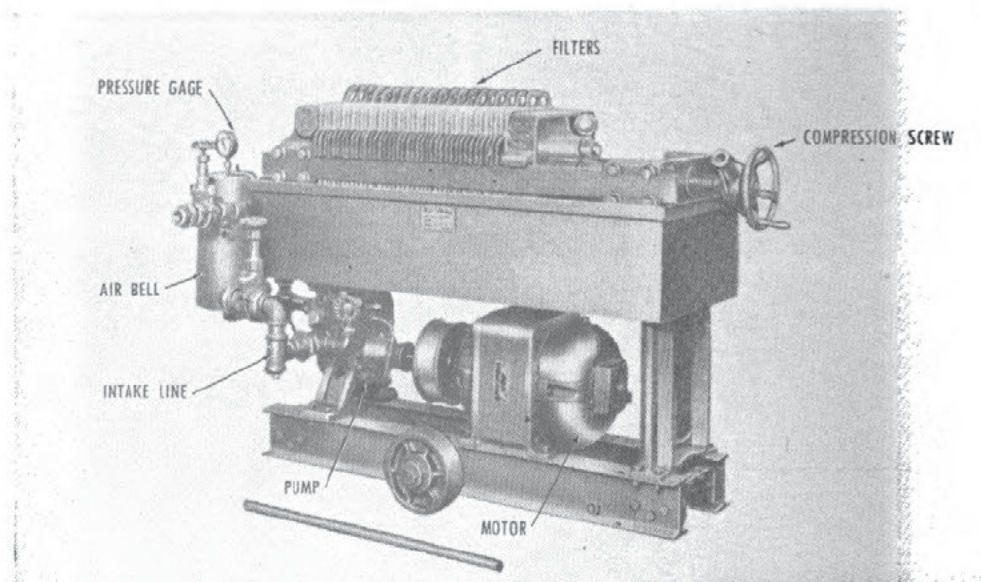

Figure 7-20.—Blotter-type filter press.
Oil that has a low dielectric strength can be reconditioned if the repair shop is equipped with a blotter-type filter press. One such type of press is shown in figure 7-20. Its main parts consist of (1) a motor (2) a pump and (3) a series of filter paper. The pump, driven by the motor, forces the dirty and wet oil under pressure through the blotter type paper filters. Dirt is screened out and water is absorbed by the filter paper. The clean oil is directed, by means of pipes and valves, to a storage tank. A pressure gage is used as an indication of the filter paper condition.